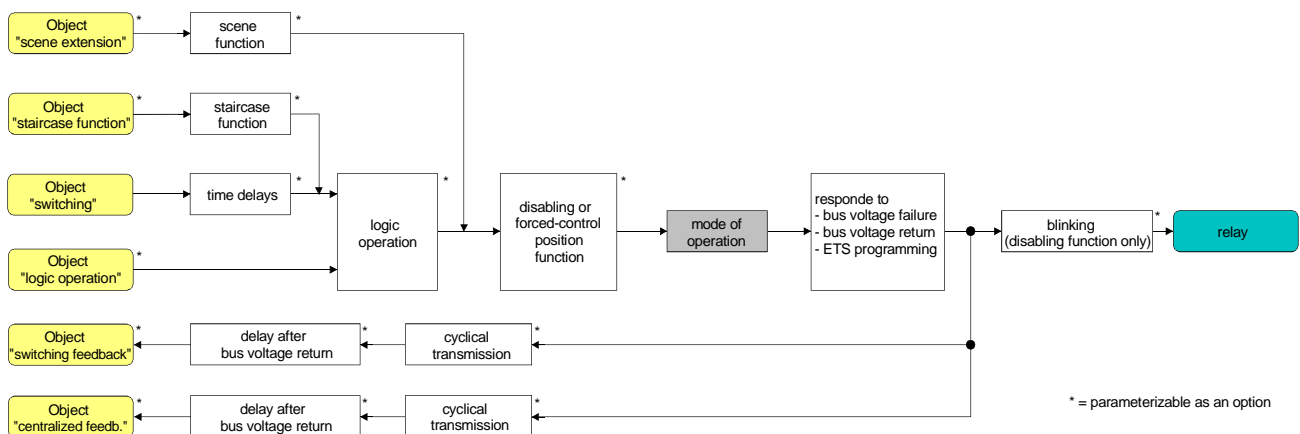

Fig. 6: Functional diagram "Mode of operation"
- i The logic switching state ("on - 1" or "off - 0") is set by the communication object "Switching" and influenced by the functions that can be optionally activated (e.g. timing/staircase functions, logic operations, disabling/forced-control position functions, scenes – cf. Fig. 6).